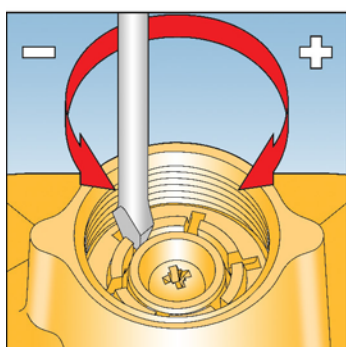

Fig. 11
- 40) Fully unscrew and remove top spring holder. See Fig. 11.
- 42) Screw spring holder back in place, ensuring that castellated spigot is uppermost in chimney. See Fig. 11.
- 54) Screw top spring holder back in place, ensuring that castellated spigot is uppermost in chimney. See Fig. 11. (If UPSS only ensure that spacer tube is firmly clamped).